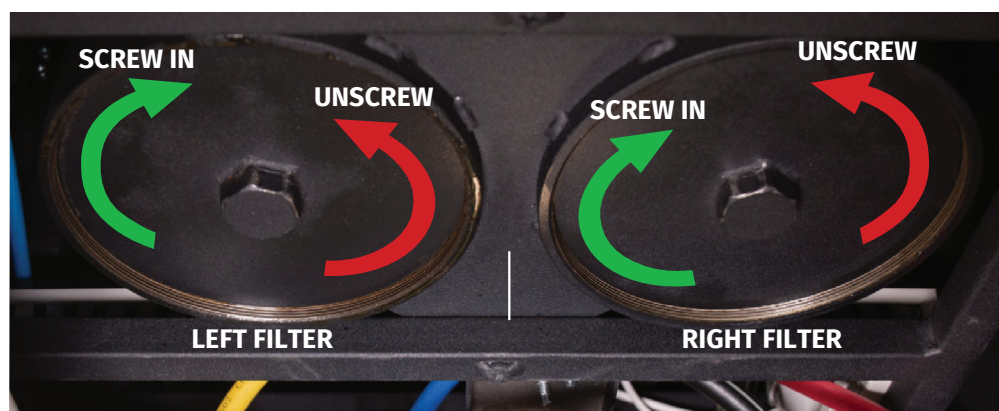
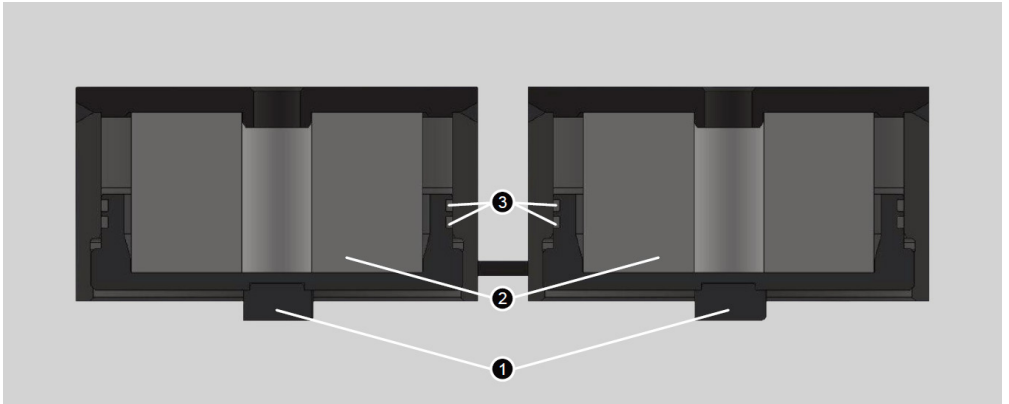

Figure 37. Direction of filter cover rotation during filter replacement MS0101
Figure 38 – Refrigerant filter structure:
- each message «Replace filter» should be followed by replacement of the right filter element MS0101 (Fig.37);
5. Turn the filter cover (n.1, Fig.38) counter-clockwise (Fig.37) with either a hook wrench or a socket wrench until the filter bowl is free.
6. Check the condition of O-rings (n.3, Fig.38) and replace if necessary.
7. Replace the filter element MS0101 (n.2 Fig. 38).
8. Reinstall the filter cover and screw it clockwise until tight (see Fig.37).